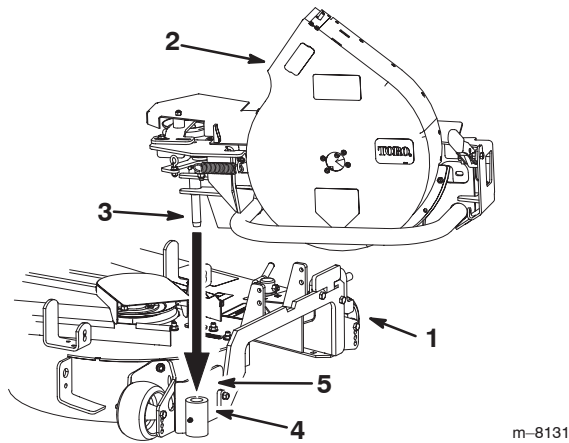

Figure 9
2. Slide the blower assembly peg into the hole on the bracket (Fig. 9).